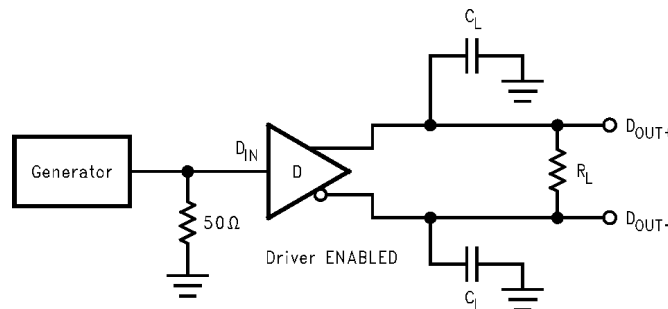
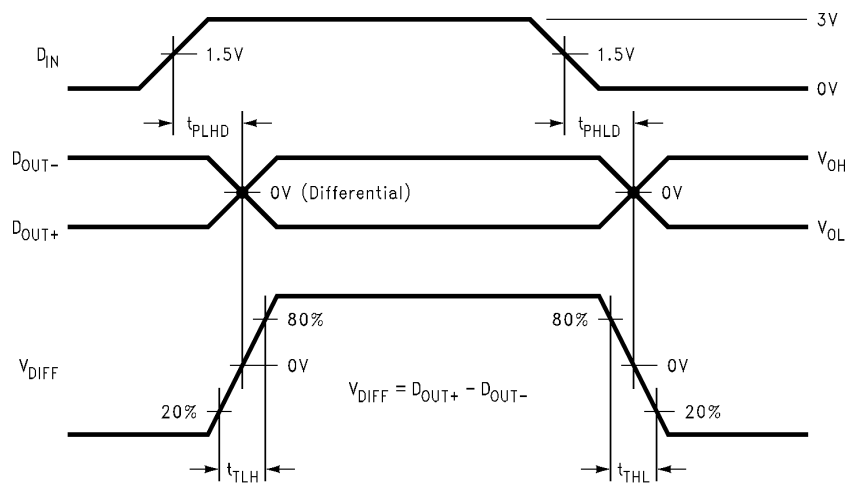

Figure 4. Driver Propagation Delay and Transition Time Test Circuit
Figure 5. Driver Propagation Delay and Transition Time Waveforms
| $t_{PHLD}$ | Differential propagation delay high to low                        | $R_L = 100\ \Omega$ and $C_L = 10\text{ pF}$ (see Figure 4 and Figure 5) | 0.8 | 1.18 | 2   | ns   |
| $t_{PLHD}$ | Differential propagation delay low to high                        | $R_L = 100\ \Omega$ and $C_L = 10\text{ pF}$ (see Figure 4 and Figure 5) | 0.8 | 1.25 | 2   | ns   |
| $t_{SKD1}$ | Differential pulse skew (4)$ t_{PHLD} - t_{PLHD} $ | $R_L = 100\ \Omega$ and $C_L = 10\text{ pF}$ (see Figure 4 and Figure 5) | 0   | 0.07 | 0.4 | ns   |
| $t_{SKD2}$ | Channel-to-channel skew (5)                            | $R_L = 100\ \Omega$ and $C_L = 10\text{ pF}$ (see Figure 4 and Figure 5) | 0   | 0.1  | 0.5 | ns   |
| $t_{SKD3}$ | Differential part-to-part skew (6)                     | $R_L = 100\ \Omega$ and $C_L = 10\text{ pF}$ (see Figure 4 and Figure 5) | 0   |      | 1   | ns   |
| $t_{SKD4}$ | Differential part-to-part skew (7)                     | $R_L = 100\ \Omega$ and $C_L = 10\text{ pF}$ (see Figure 4 and Figure 5) | 0   |      | 1.2 | ns   |
| $t_{TLH}$  | Rise time   | $R_L = 100\ \Omega$ and $C_L = 10\text{ pF}$ (see Figure 4 and Figure 5) |     | 0.38 | 1.5 | ns   |
| $t_{THL}$  | Fall time   | $R_L = 100\ \Omega$ and $C_L = 10\text{ pF}$ (see Figure 4 and Figure 5) |     | 0.4  | 1.5 | ns   |